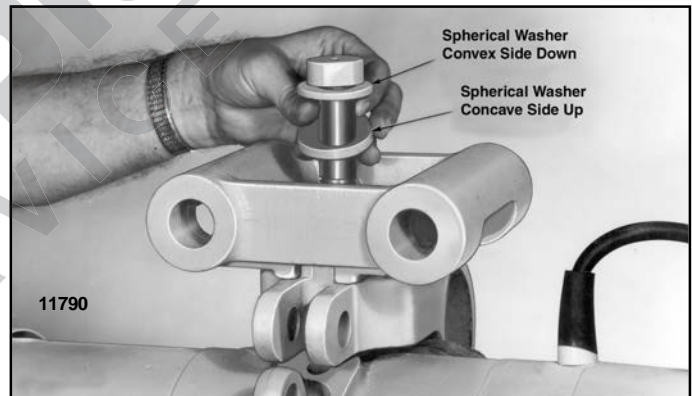

Figure 10
2. Determine whether suspension lug is to be cross mounted or parallel mounted. (See Figures 4 and 5). Place lug on hanger in desired position. Insert suspension pin through spherical washers, suspension lug and hanger as shown in Figure 10.